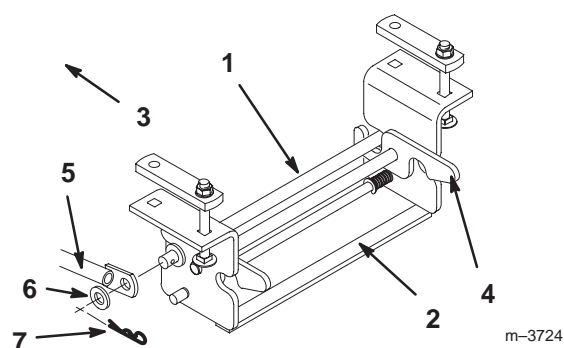

Figure 17
11. Open the latches on the rear Attach-A-Matic™. Put the support rod link into the front notches on the rear Attach-A-Matic™ and close the latches to secure it in place (Fig. 17).
- Secure the braces to the rod with a 13/16" (21 mm) washer and a large hairpin cotter (Fig. 17).